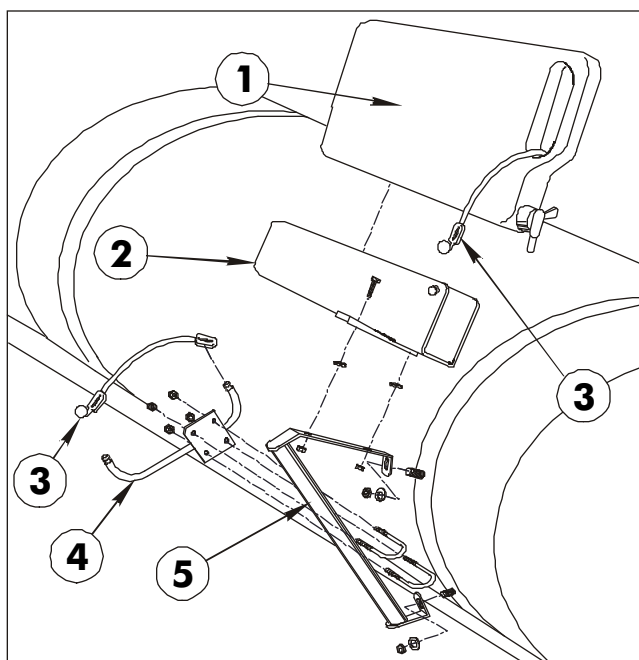

FIG. 3
1. Mount right Hold-In Brace assembly to the two (2) 5/16" carriage bolts in the front Tank Band using two (2) 5/16" flat washers and hex nuts. Tighten securely. See FIG. 3.
2. Attach right Boom Hold-In assembly to Hold-In Brace assembly using two (2) 1/4" U-bolts and four (4) 1/4" lock nuts. Attach Rubber Hold-Down to Hold-In Brace assembly. Repeat steps 1 and 2 for left side.
3. Mount Wash Tank Bracket (open end forward) to right-hand Hold-In Brace assembly using two (2) 5/16" x 1" hex hd. cap screws, flat washers, and hex nuts. Place Clean Water Wash Tank into Wash Tank Bracket and secure with Rubber Hold-Down, as shown in FIG. 3.